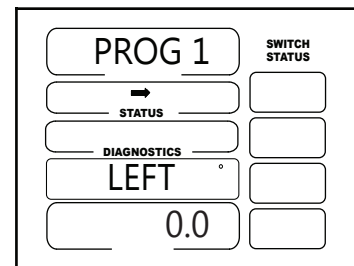

Figure 18-1
- a) Press  to turn on the forward icon and turn the reverse icon off. This indicates the program will execute in that direction only. See figure 18-1.